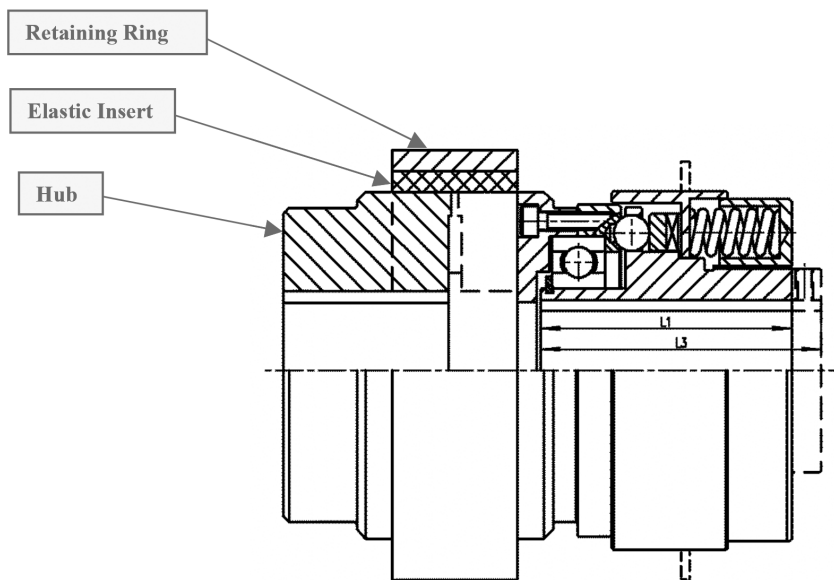

Figure 1a
*For types 7&8 (Figure 1a), remove from the shafts. Undo the grub screws from the retaining ring and slide to one side. Unravel the Elastic insert and unscrew the bolts from the adaptor plate.